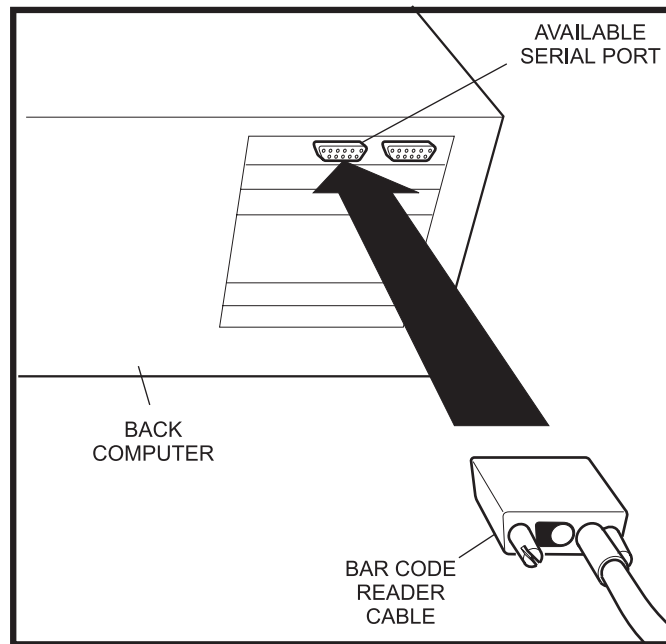

Figure 3
3. Connect interface cable to available serial port on computer. Refer to Figure 3.